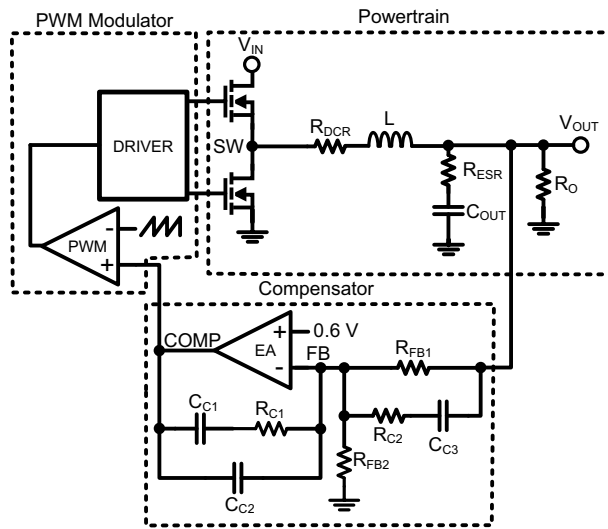
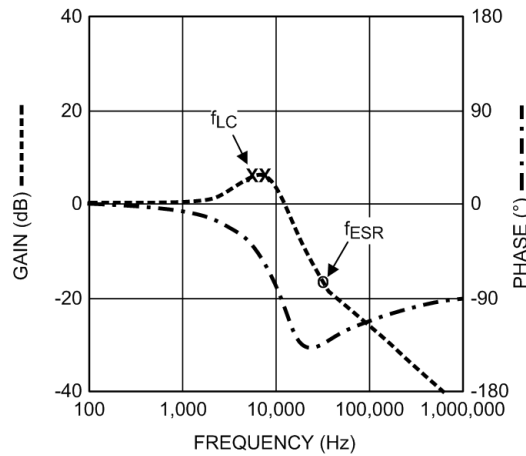

Figure 35. Control Loop Schematic Diagram
Figure 36. Powertrain Bode Plot
There are three main blocks of a voltage-mode buck switcher that the power supply designer needs to consider when designing the control system: power train, PWM modulator, and compensator. A diagram representing the control loop is shown in Figure 35.
The power train consists of the filter inductor (L) with DCR ( $R_{DCR}$ ), output capacitor ( $C_{OUT}$ ) with ESR (effective series resistance  $R_{ESR}$ ), and effective load resistance ( $R_O$ ). The error amplifier (EA) regulates the feedback (FB) voltage to 0.6V. The passive compensation components around the error amplifier establish system stability. Type-III compensation is shown in Figure 35. The PWM modulator establishes the duty cycle command by comparing the error amplifier output (COMP) with an internally generated ramp set at the switching frequency.
Figure 36 shows the bode plot of the above transfer function.
The complex poles ( $f_{LC}$ ) created by the filter inductor and output capacitor cause a  $180^\circ$  phase shift as seen in Figure 36. The phase is boosted back up to  $-90^\circ$  by virtue of the output capacitor ESR zero. The phase shift caused by the complex poles must be compensated to stabilize the loop response. The compensation network shown around the error amplifier in Figure 35 creates two poles, two zeros and a pole at the origin. Placing these poles and zeros at the correct frequencies optimizes the loop response. The compensator transfer function is: